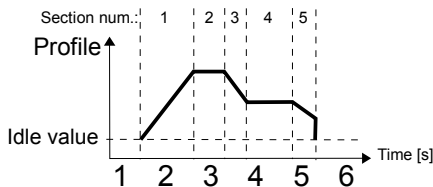

Fig. 7.108. Sample of Profile/timer
- **level (gate)** – this means that the Profile configured by the user when the source signal has the value > 0 , otherwise (if source value ≤ 0) the defined Profile will not be generated. See Fig. 7.108 and example a) in Fig. 7.109,
- **edge (once)** – this means that the Profile configured by the user will be triggered by the rising edge (from values ≤ 0 to the value > 0) of the source signal. After the rising edge the Profile will be generated in whole (once), regardless of further changes to the signal source, see Fig. 7.108 and example b) in Fig. 7.109,
- **edge (re-triggering)** – this means that the Profile configured by the user will be triggered by the rising edge (from values ≤ 0 to the value > 0) of the source signal. However, in this mode, unlike the edge (once) mode the defined Profile will be generated from the beginning every time the Triggering source signal generates an edge, whether that Profile had been completed or not. See Fig. 7.108 and example c) in Fig. 7.109,
Fig. 7.109. Samples of **Profile** output waveforms defined in Fig. 7.108, triggered by signal selected in **Triggering source** parameter for **Triggering mode: level (gate), edge (once), edge (retrig.)**